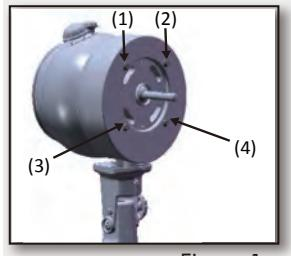
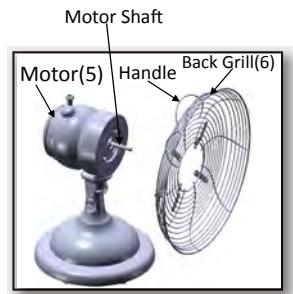

Figure 1.
Figure 2.
1. Unscrew the 4 Grill Mount Screws(1)(2)(3)(4) on the front of the motor. **Figure 1**. Place the back grill against the motor housing(5), **Figure 2**. And line up the 4 tabs on the back of the grill(6) to the 4 screw holes on the front of the motor. Make sure the Handle on the back of the back grill is facing up.